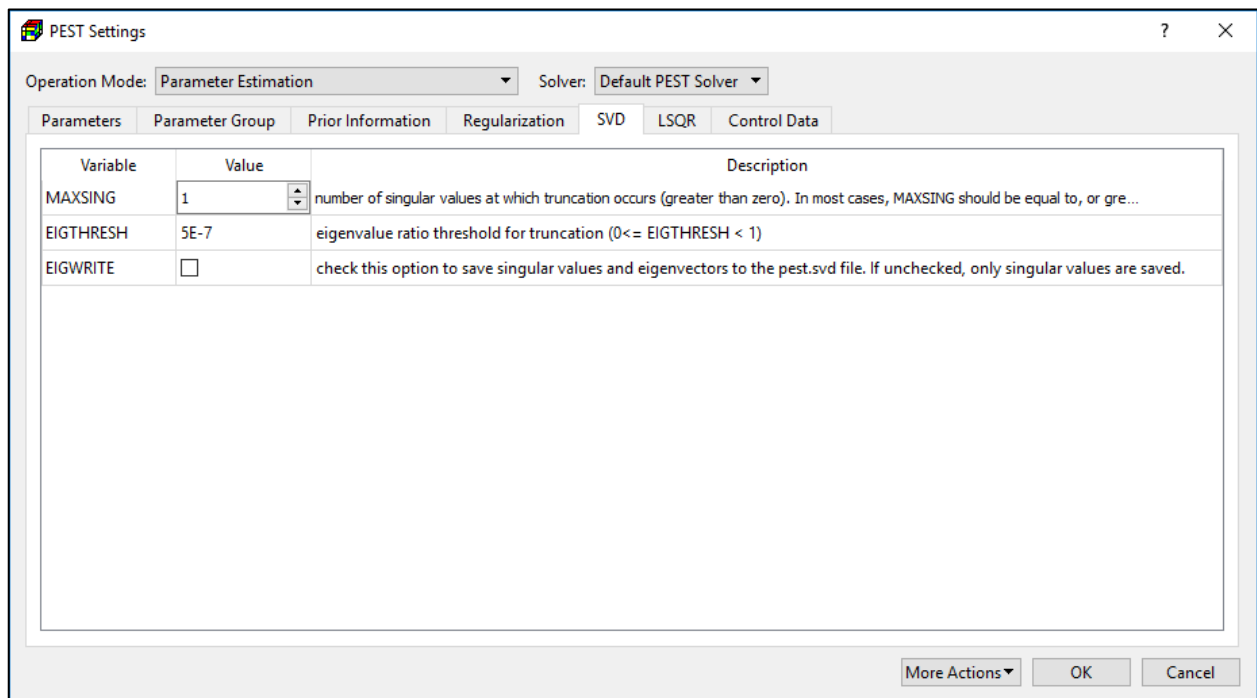

Figure 112. The SVD tab of the PEST Settings dialog box
8. SVD Tab (Figure 112): The variables of this tab are used only if the Solver is either *SVD Mode 1* or *SVD Mode 2*.